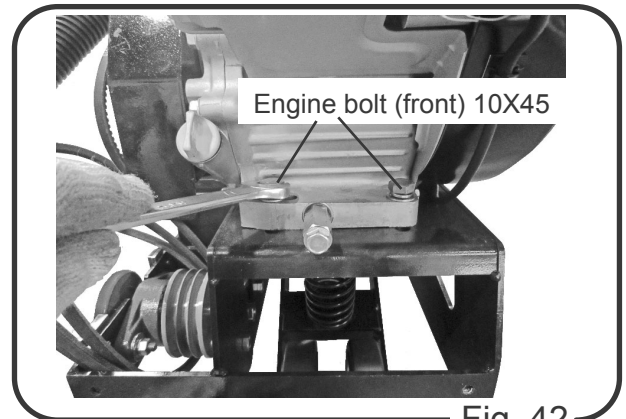
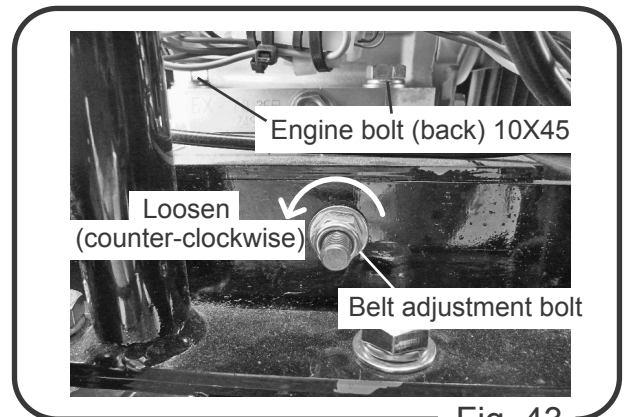

Fig. 42
Fig. 43
3. Loosen the four engine bolts. Just loosen them. Do not remove those bolts. (Fig. 42, Fig. 43)
4. Loosen the belt adjustment bolt. Once this bolt is loosened, the engine moves forward. (Fig. 43)